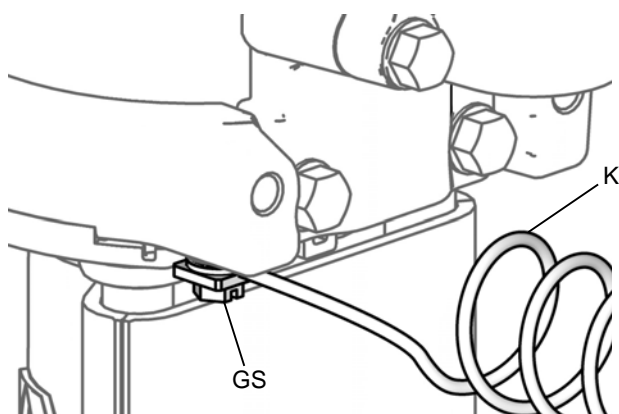

FIG. 2. Ground Wire
**Pump:** See FIG. 2. Verify that the ground screw (GS) is attached and tightened securely to the air motor. Connect one end of the ground wire (K) to the ground screw. Connect the other end of the ground wire to a true earth ground.